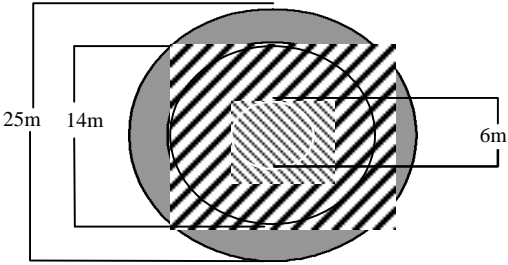

Figure 8-8: Size 1 Landing Point Circular
4. The size of the landing site (LS) will depend on the number and size of the landing points (LPs) within it and the dispersion reqr between LPs based on the tac sit. Supported units must either comply with hel unit reqrs or coord a reduced size of LS before an op starts. The criteria provided in Figures 8-8 to 8-10 represent the minimum dimensions of each LP. Hel units will designate Size 1, 2, 3, 4, or 5 Circular Landing Points to be utilized by their units for specific ops. Numerous considerations, such as hel type, unit proficiency, nature of loads, climatic conditions and day or ni ops may apply to the size of the LPs used. In the absence of info from the hel unit, a Size 5 LP will be chosen. The minimum recommended distance between LPs within a LS where no consideration is given to dispersion between hels is as follows: